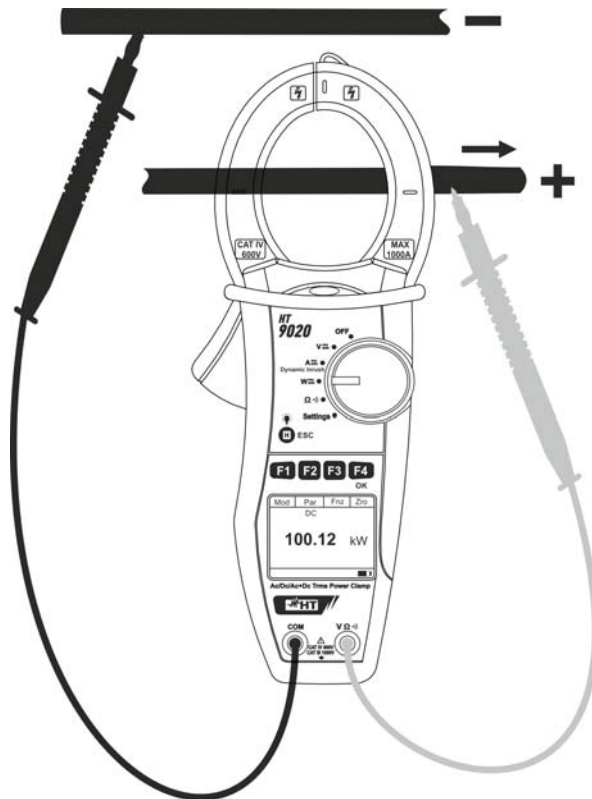

Fig. 11: DC power/energy measurement
5. Connect red cable to input lead **VΩ⁾⁾⁾** and black cable to input lead **COM**. Position red lead to “+” and black lead to “-” then connect “+” cable to the clamp jaws, respecting the direction of current indicated by the arrow (see Fig. 11). Connect the cable to the middle of the clamp jaws, in order to get accurate measurements. Use the marks as a reference (see Fig. 2)
6. The value of DC power is displayed expressed in kW. Press **F2 (Par)** to open the drop-down menu shown on the screen aside and select the “**Volt/Curr**” option for the DC voltage and current measurement. Confirm with **F4 (OK)**. The following screen is displayed: